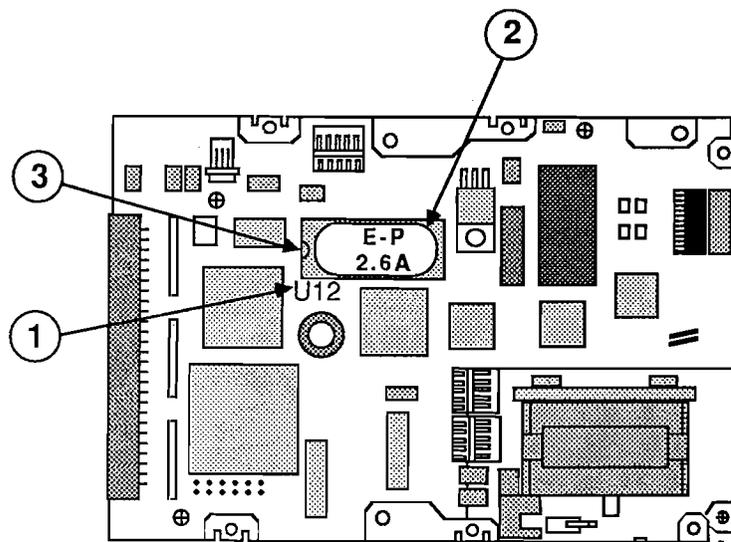

FIGURE 1
One model of the Hard Disk 20SC must be upgraded from Rev. 2.6A to function properly in a Macintosh II/Iix. This model is represented by the controller board shown in Figure 1. Before you install a 3.5-inch, 20 MB hard drive service module in a Macintosh II/Iix, follow the steps below to make sure you have the proper revision.
2. Compare the layout of the service module's controller board to the board layout shown in Figure 1. If they don't match, the service module does not need to be upgraded. If they **do** match, continue to step 3.
3. Locate the 28-pin EPROM at U12 (Figure 1, #1) and check to see if it is labeled "2.6A" under the heading "E-P" (Figure 1, #2). If it is, continue to step 4. (If it is **not** labeled "2.6A," nothing needs to be done.)
4. Note the direction of the notch (Figure 1, #3) at the end of the EPROM. (You will need to install the new EPROM the same way.)